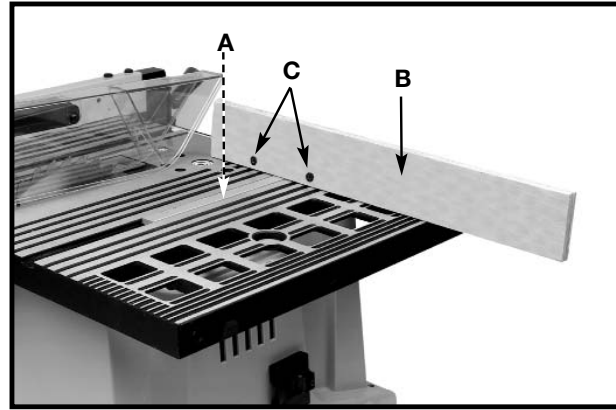

Fig. 42A
For added safety and convenience the miter gage (A) can be fitted with an auxiliary wood-facing (B), as shown in Fig. 42A, that should be at least 1 inch higher than the maximum depth of cut, and should extend out 12 inches or more to one side or the other depending on which miter gage slot is being used. This auxiliary